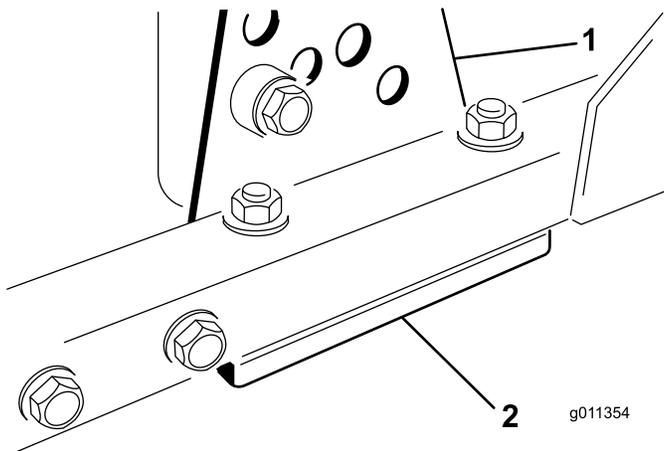

Figure 56
1. Remove the height-of-cut bracket, (front, left, or right) from the deck frame (Figure 56).
2. Adjust 1.5 mm (0.060 inch) shims and/or 0.7 mm (0.030 inch) shim between the deck frame and bracket to achieve the desired height setting (Figure 56).